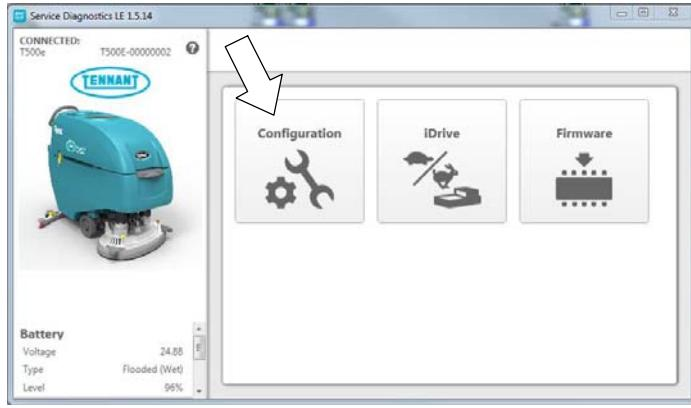

Fig. 24
- From the Home screen, press the Configuration button (Figure 24).